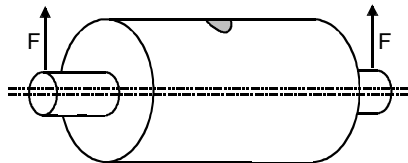

Figure 64: Static balance
**Static balance** occurs when the rotor axis and the mass axis are not coincident, but both axes are parallel to each other. Figure 64 shows the amount and direction of the resulting unbalance forces. The force acting on both bearings is the same.